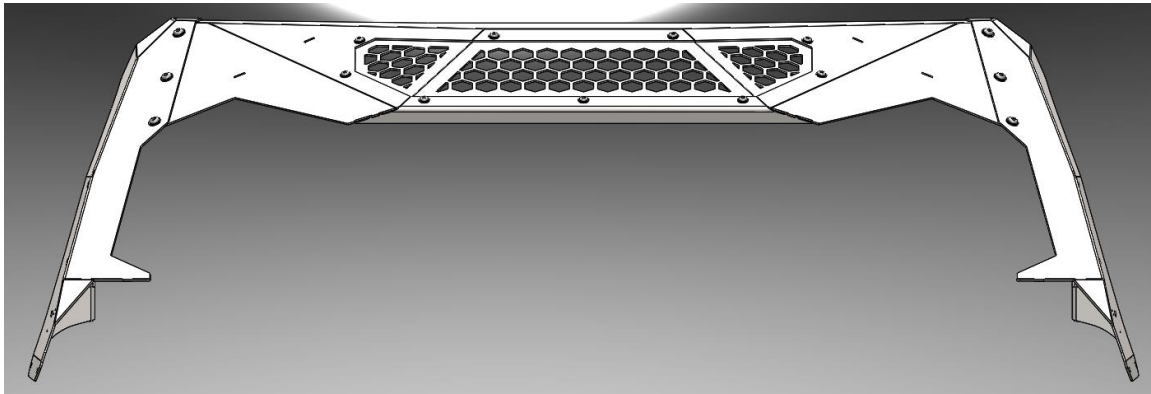

Fig 13
- e. Loosely install both ViCowl arms to the visor using the provided 3/8"-16 stainless steel bolts and rubber bonded washers as shown in **Fig 13**.